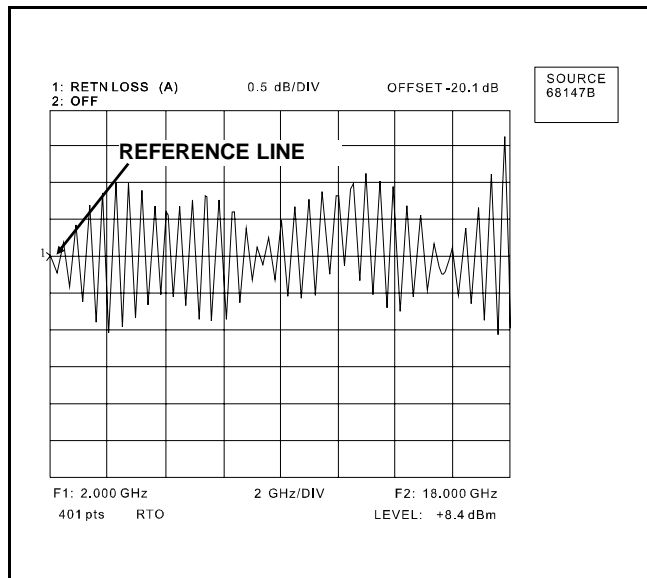

Figure 9. Signal Aligned With the Reference Line
17. Using the Data Entry/Cursor knob, align the Channel 1 signal with the reference line (Figure 9).